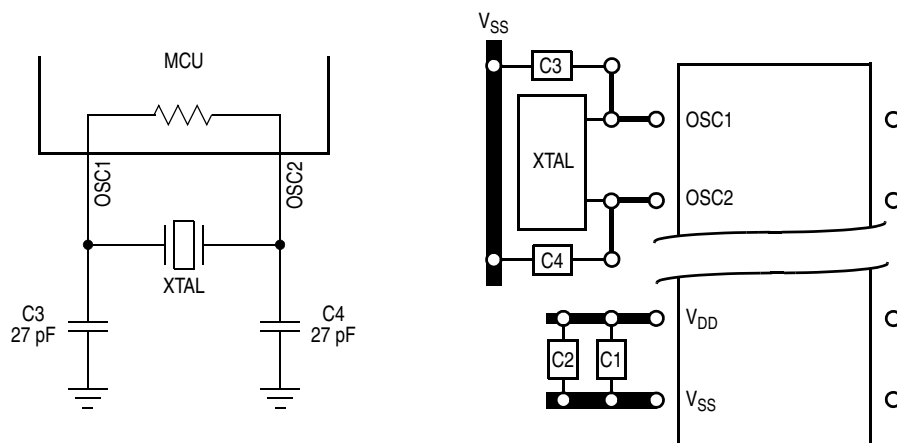
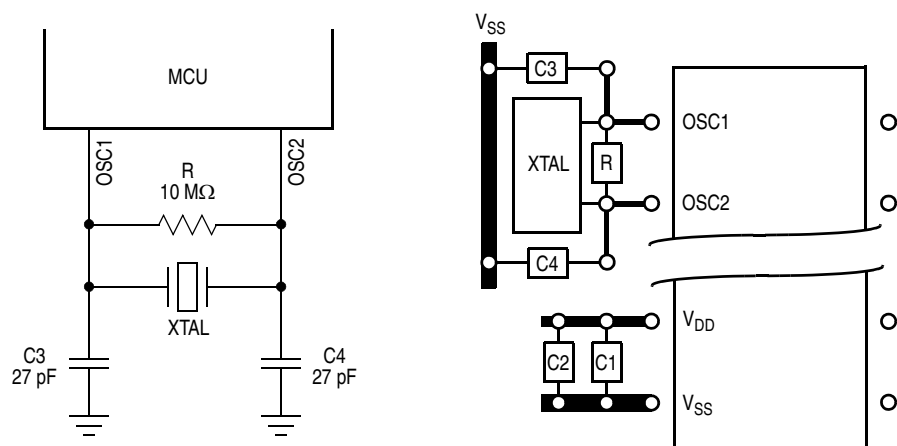

Figure 1-4. Crystal Connections with Oscillator Internal Resistor Mask Option
Figure 1-5. Crystal Connections without Oscillator Internal Resistor Mask Option
1. Standard crystal (See **Figure 1-4** and **Figure 1-5**.)
Figure 1-4 and **Figure 1-5** show a typical crystal oscillator circuit for an AT-cut, parallel resonant crystal. Follow the crystal supplier's recommendations, as the crystal parameters determine the external component values required to provide reliable startup and maximum stability. The load capacitance values used in the oscillator circuit design should include all stray layout capacitances.